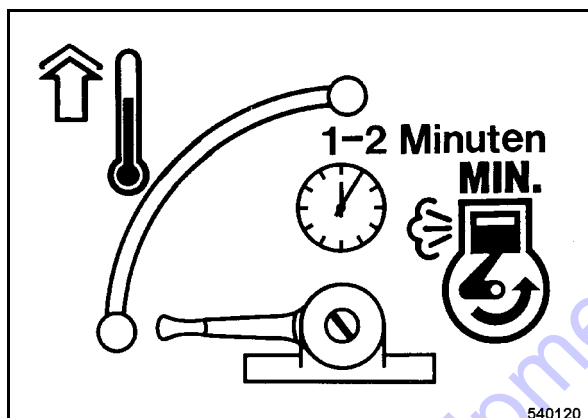

Fig. 18
- Set the throttle lever (Fig. 18) to position "MIN" and let the engine run warm for 1 to 2 minutes.